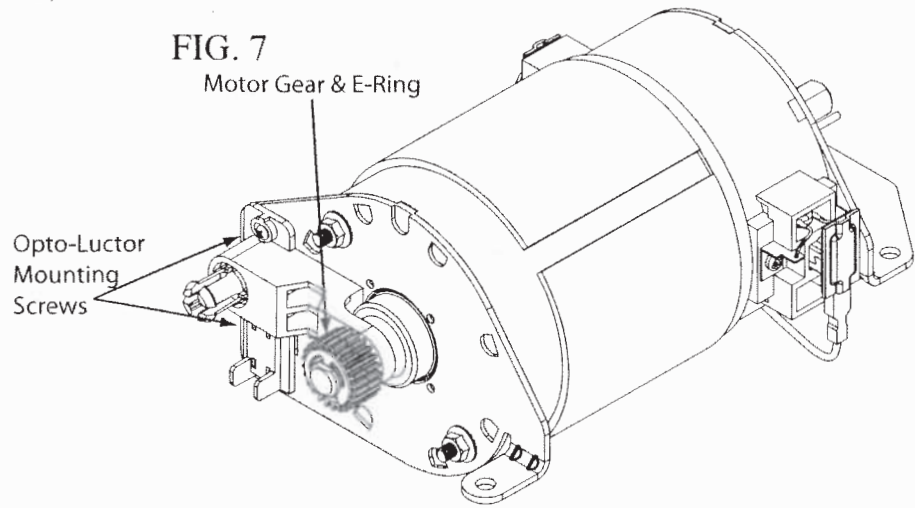

FIG. 8
22. Remove Opto-Luctor Harness from old Opto-Luctor and Install onto Replacement Motor FIG. 8.